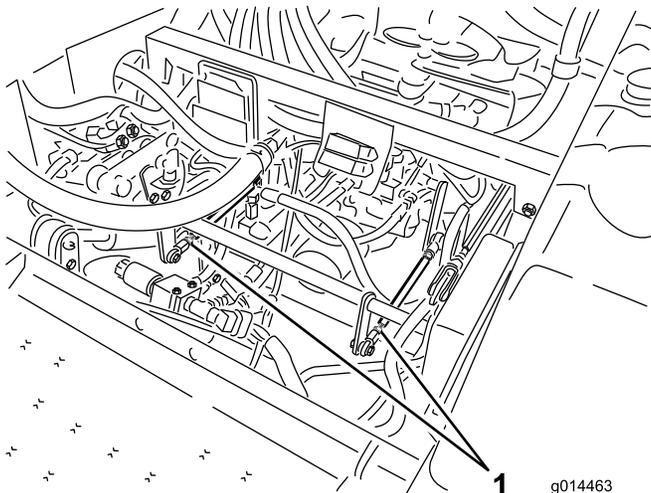

Figure 38
- If the left, rear tire is rotating, loosen the jam nuts on the left transmission control rod (Figure 38).